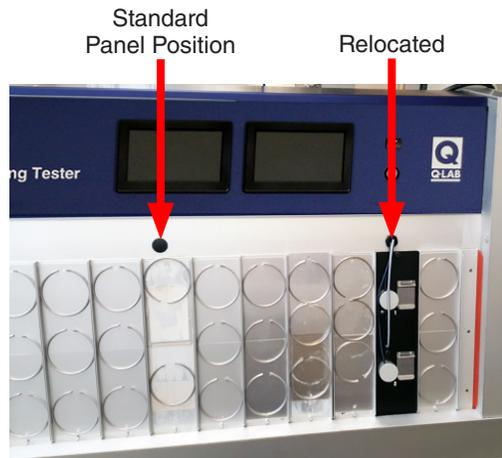
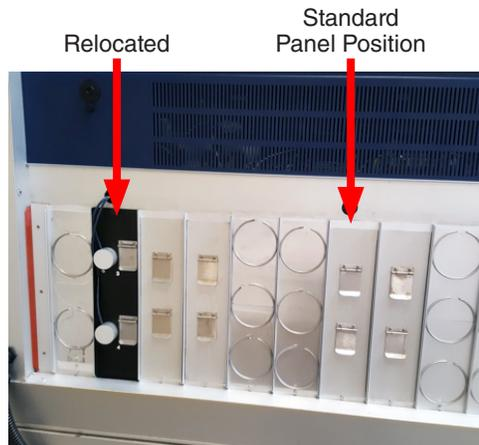

Figure 12.3s: Sensor panel relocated on front of tester.
Figure 12.3t: Sensor panel relocated on rear of tester.
- With the optional QUV Sensor Panel Relocation Kit, the QUV irradiance and temperature sensor panels (both front and back) can be relocated to near the end of the specimen area (Figure 12.3s and Figure 12.3t).